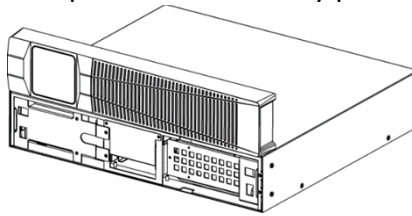

Fig. 3 Remove the front panel
2. Remove the front panel of the battery pack as Fig. 3.